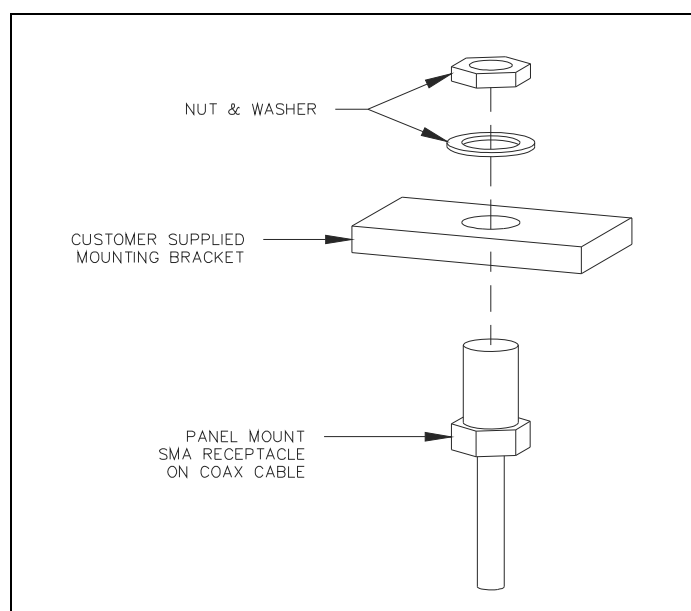

Figure 3. Antenna End of Coaxial Cable
9. Secure the coaxial cable SMA receptacle to the bracket using the nut and washer provided on the receptacle (See Figure 3).